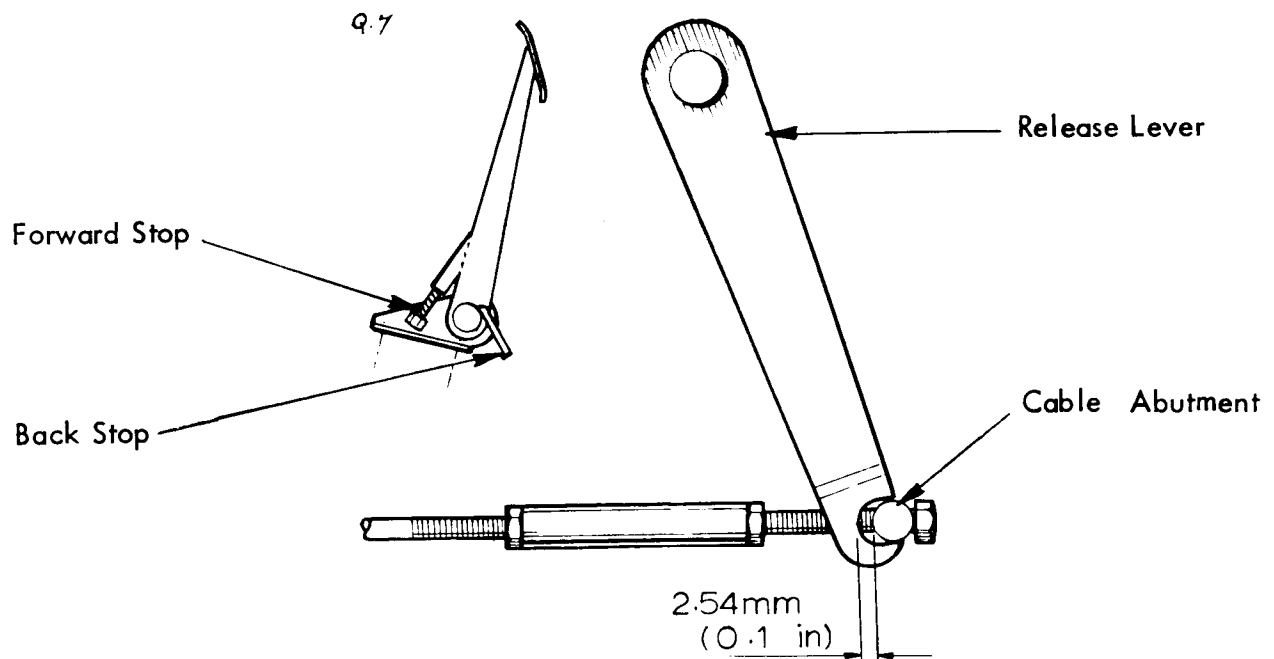

Fig. 1. CLUTCH ADJUSTMENT.
3. Adjust the cable to give the clearance at the cable abutment (see Fig. 1).